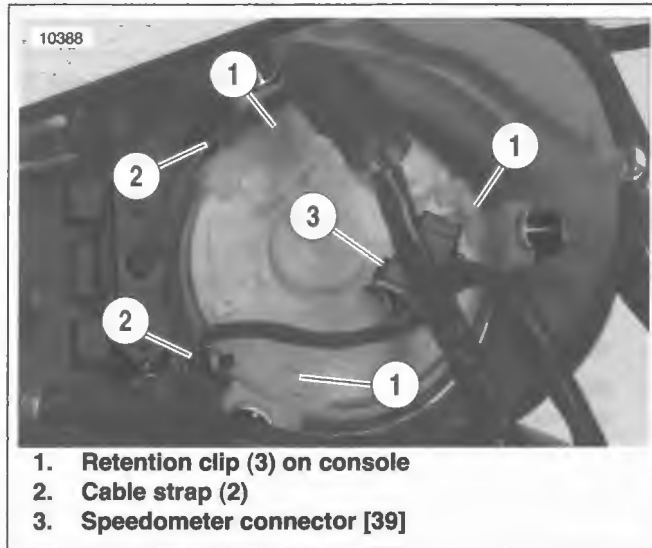
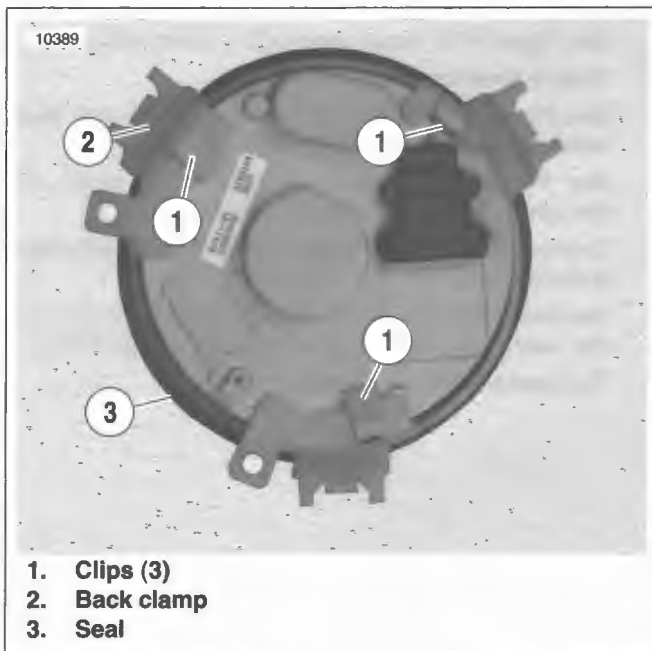

Figure 8-77. Speedometer Mount: FXSTD
Figure 8-78. Speedometer Clips
3. See Figure 8-77. Remove wiring for indicator lamps from cable straps (2) on back of speedometer.
4. Detach speedometer connector (3) [39].
5. Disengage retention clips (1) holding speedometer back clamp to instrument console.
6. See Figure 8-78. Disengage clips (1) to free speedometer from back clamp (2). Remove seal (3).
1. See Figure 8-78. Secure the speedometer inside back clamp (2) using clips (1). Install seal (3).
2. See Figure 8-77. Secure the speedometer back clamp to instrument console using retention clips (1).
3. Fasten wiring with cable straps (2).
4. Attach speedometer connector (3) [39].